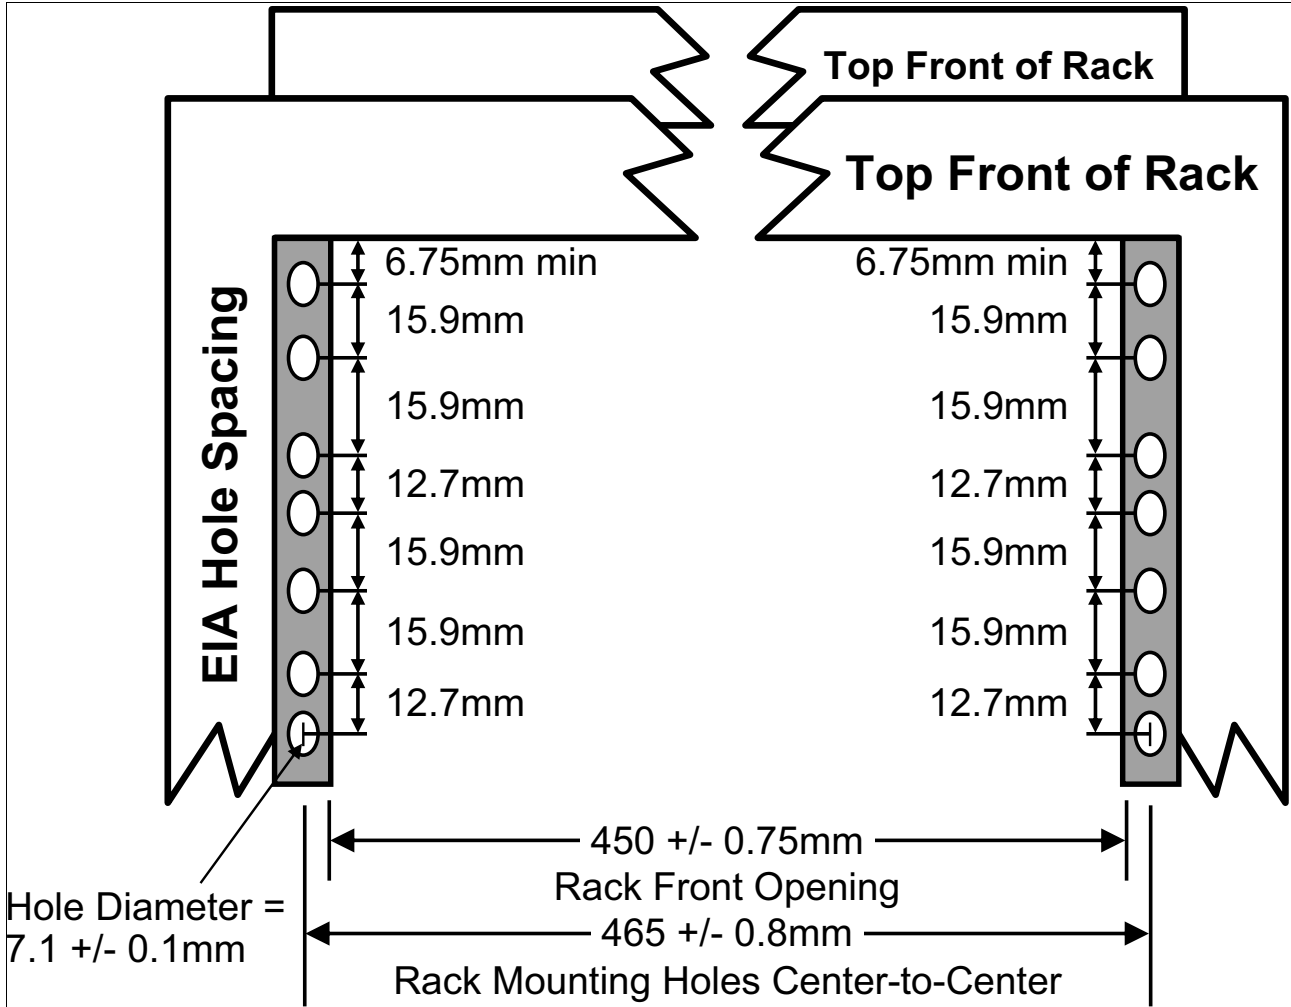

Figure 1-13 Rack specification dimensions: Top front view
- ▶ The vertical distance between the mounting holes must consist of sets of three holes spaced (from bottom to top) 15.9 mm (0.625 in.), 15.9 mm (0.625 in.), and 12.67 mm (0.5 in.) on-center, making each three-hole set of vertical hole spacing 44.45 mm (1.75 in.) apart on-center. Rail-mounting holes must be 7.1 mm ± 0.1 mm (0.28 in. ± 0.004 in.) in diameter. Figure 1-13 shows the top front specification dimensions.